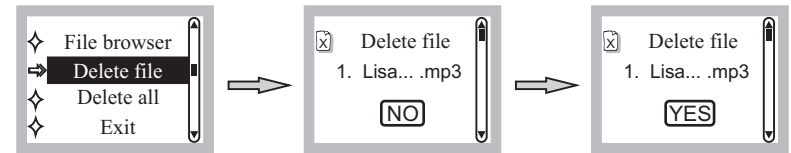

Fig. 26
(2) Delete File: Press **▶** to enter the “Delete file” screen. Press **◀** or **▶** to select “NO” or “YES”. Press **▶** to confirm, Fig. 26.